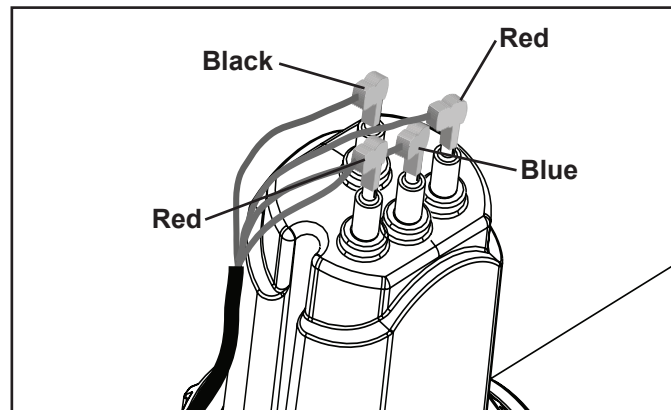

Figure 5. Connecting Cell Leads
9. Securely connect the cell leads to the like colored terminals (see Figure 5).